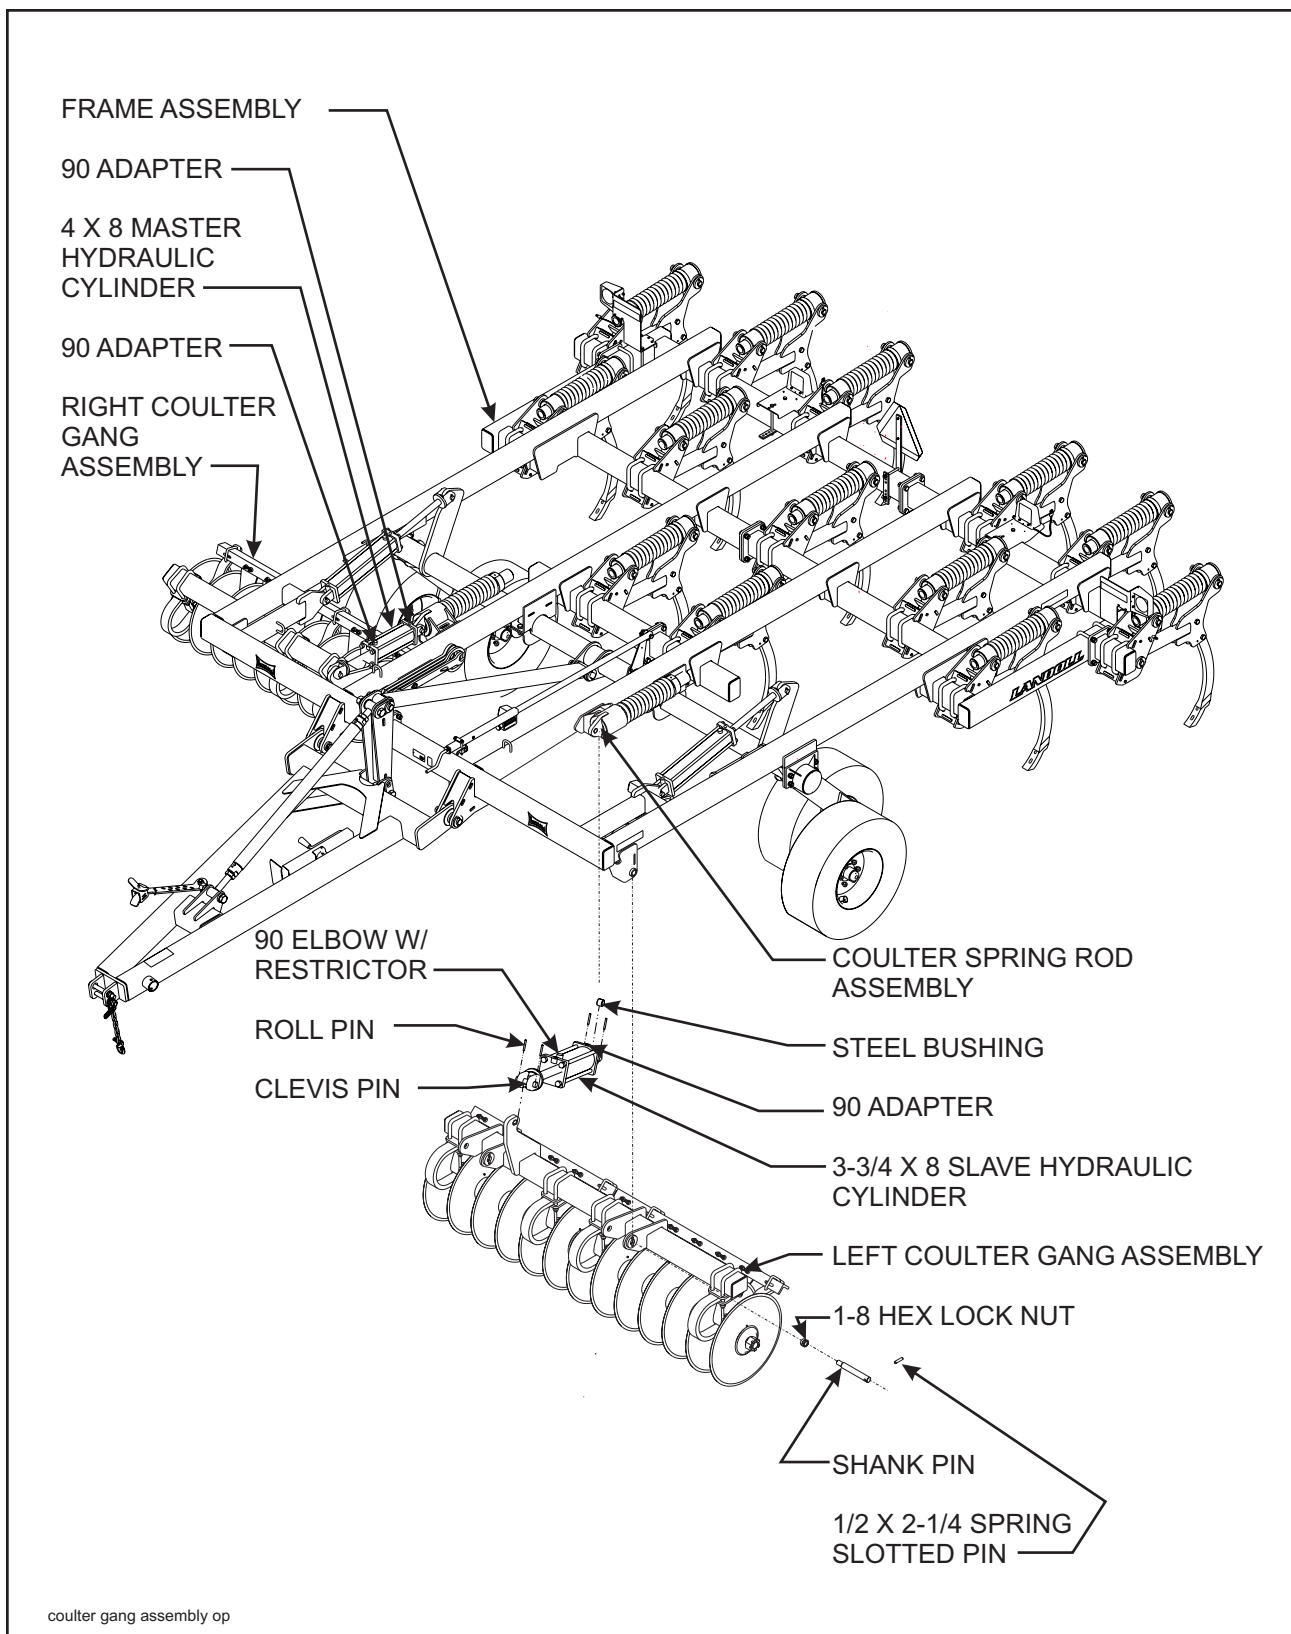

Figure 3-5 Coulter Gang Installation
- 3-6.1** Attach the coultter gang assemblies to the frame using shank pin, 1-8 hex lock nut, and 1/2 x 2-1/4 spring slotted pin (**See Figure 3-5**).